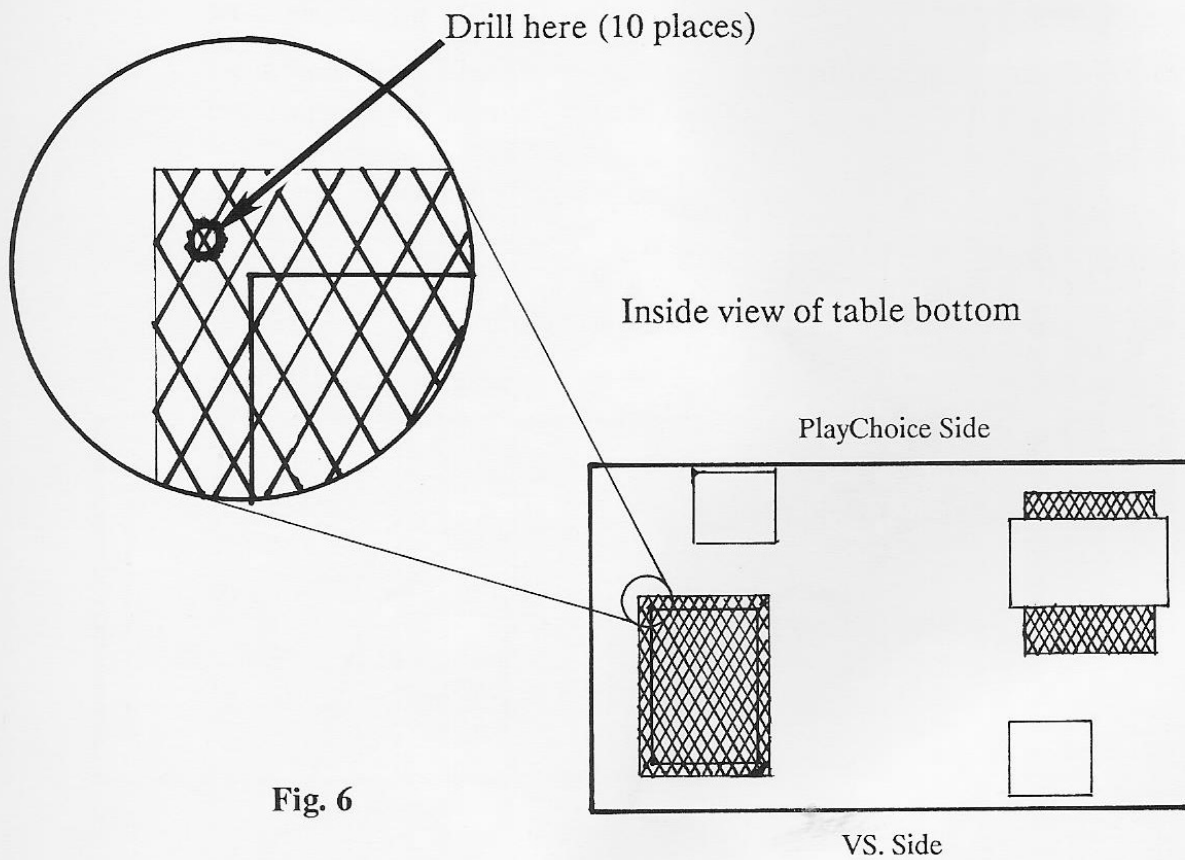

Fig. 6
5. **Remove the Screen Vent (see Figure 6)**
- A. Using a 5/16" drill bit, drill out the ten (10) spot weld points on the screen vent on the bottom of the chassis.